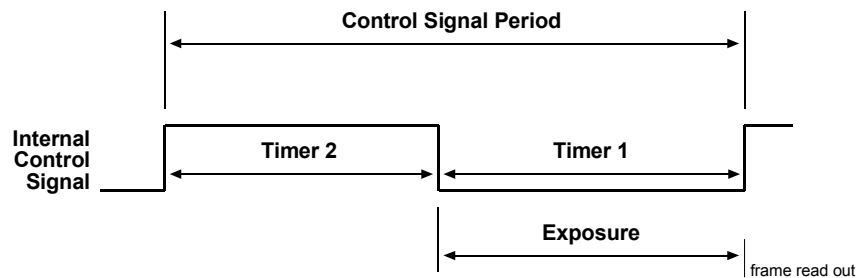

Figure 3-5: Free-run, Programmable Mode
- In **free-run, programmable** mode, the pixels are exposed and charge is accumulated when the internal control signal is low. The frame is read out and transferred on the rising edge of internal control signal (see Figure 3-5).